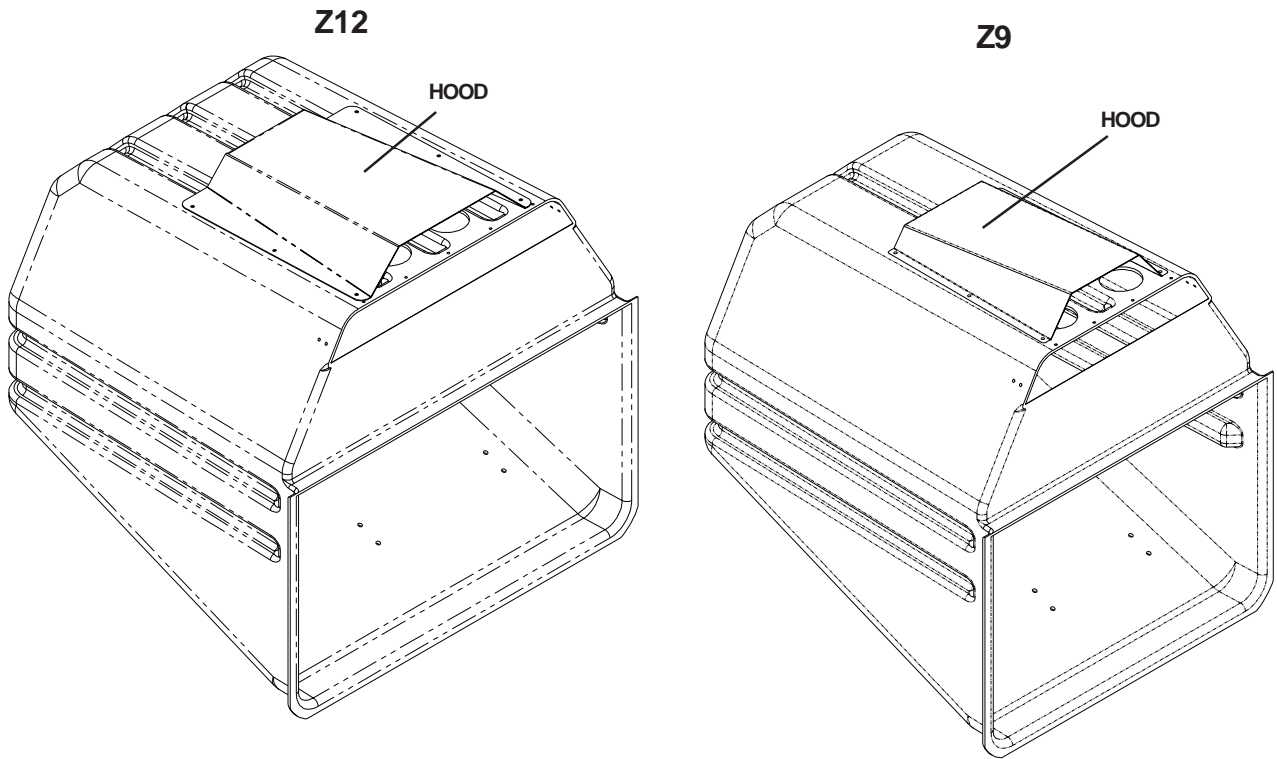

FIGURE 2
- Using the hood as a template place hood on top of container and mark the six (6) mounting holes. Remove hood and drill 1/4" dia. holes. Align hood as shown in Figure 2.